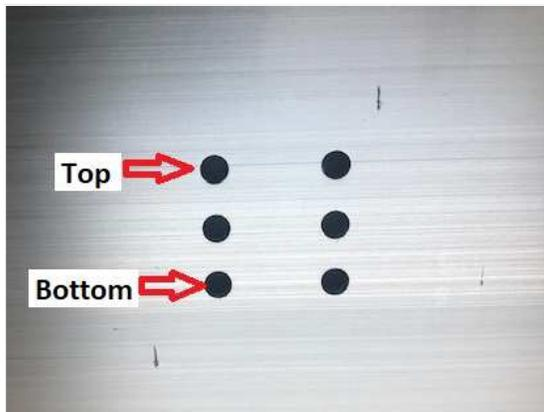

Figure 38
K. Attaching the bracket to the rail requires two #10x1/2" (13 mm) hex-headed screws per bracket, which are provided in the kit. Each rail bracket position has three sets of mounting holes. (Fig. 38) Depending on the thickness of the piano keybed, the middle set of holes should be sufficient for most applications. The top set of holes are for thin keybeds—1 1/2" (38 mm) or less. The bottom set of holes are for thick keybeds, 2" (51 mm) or thicker. (See Fig. 38)
- B. Make a final check of the alignment of the plunger tips relative to the keys. If the rail needs to be moved in order to center the plungers to the keys, remove the solenoid rail, loosen the brackets and make the adjustment. (See Fig. 38 – 39)